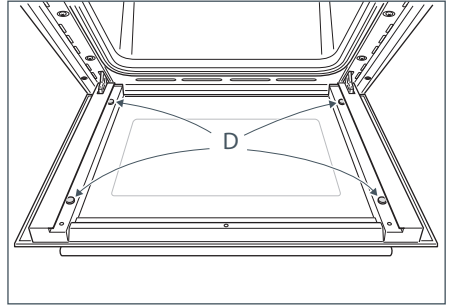

Fig.47a
- Check that the four rubber pads are in place ("D" in Fig. 47a).